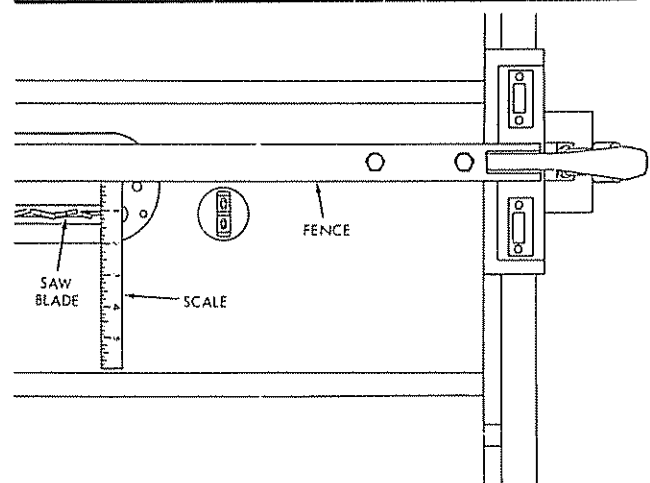

Figure 30
- (1) If for any reason the tilt hand-wheel has been rotated during preceding operations, rotate it clockwise until it stops (tilt pointer at "0").
- (2) Raise saw blade above the table surface by rotating the elevation hand-wheel clockwise.
- (3) Position the rip fence on the right-hand side of saw blade with the fence channel one inch from the saw blade and lock the fence. Be sure to use one of the teeth bent (set) to the right of blade and measure from this tooth to the fence, since this determines your width of cut. (See figure 30.) This distance should be measured accurately with a scale.